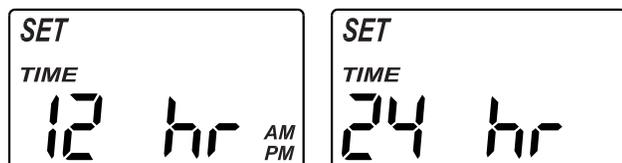

FIG. 30
- Press the SELECT button three times, so that "12 hr" or "24 hr" flashes in the display (See Figure 30).